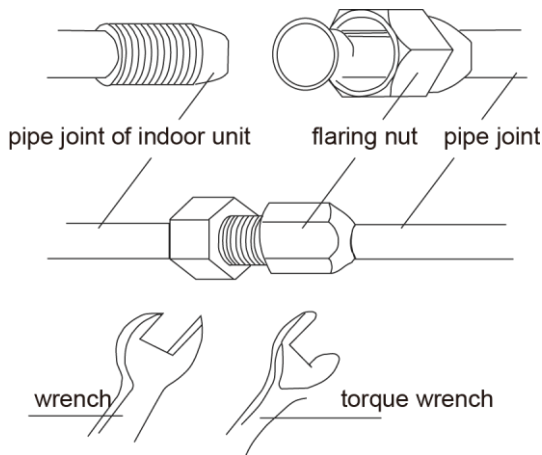

Fig 4.2.1
- (1) Guide the flaring port of copper pipe to the center of screwed joint and then tighten the flaring nut with hand as shown in fig 4.2.1.
- (2) Tighten the flaring nut with torque wrench.